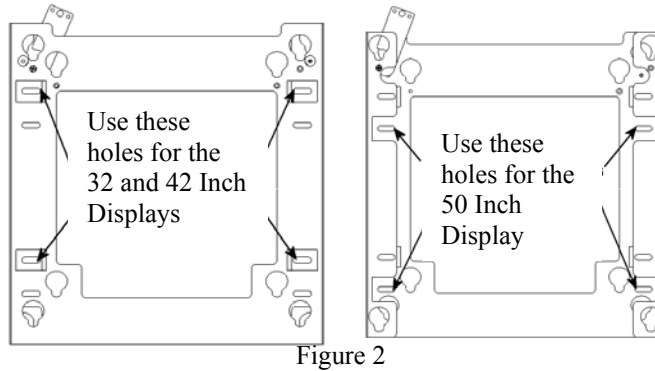

Figure 2
4. Connect lateral shift extrusions to the plasma static wall mount by inserting the T-slot studs into holes, with the proper face of the mount away from the wall for your respective plasma (see Figure 2), and secure using four flat washers, four lock washers, and four hex nuts